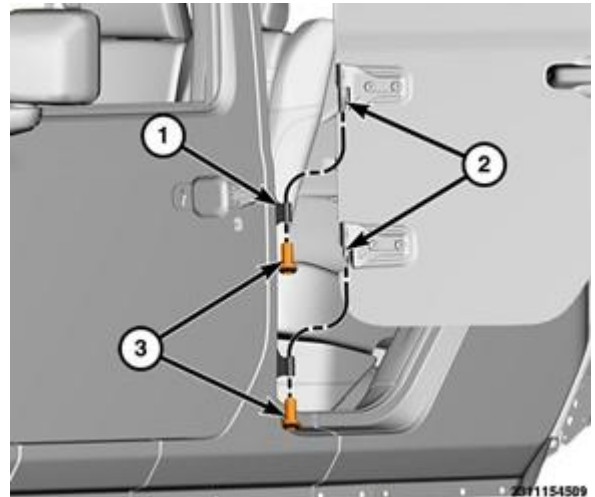

Figure 16 – Hinge Pin Nuts
- 23. Remove the nuts (3) and lift the door up off hinges (1) and remove (Figure 16).
66. Set the door into place on the hinges and install the door hinge pivot nuts. Tighten the nuts to 6N·m (53 in. lbs.) (Figure 16).